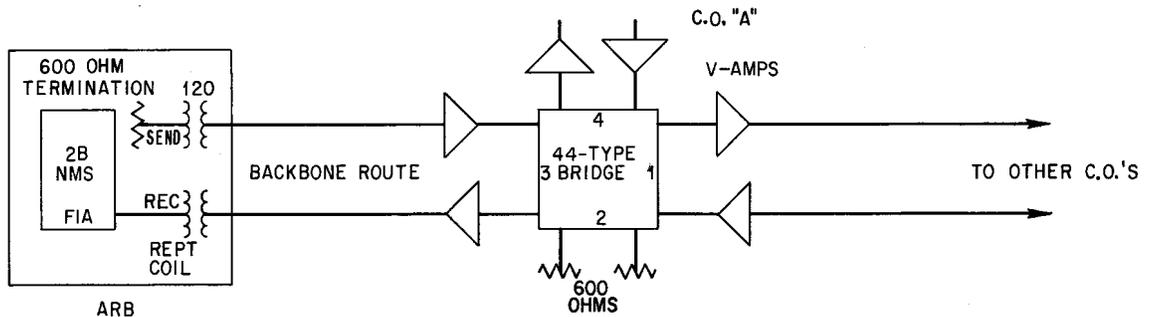

Fig. 4 — Test Set Up for Measuring Noise
**6.01** Measurements of the over-all steady noise should be made at ARB headquarters using the 2B Noise Measuring Set in accordance with practices covering the use of the set. The over-all circuit should be in the normal operating condition. Fig. 4 shows the test set up for a typical circuit. The drop side of the repeat coil at ARB headquarters should be connected to the LINE jacks or terminals of the 2B set with the switch on FIA weighting. The circuit should be monitored for crosstalk during the measurement. The presence of intelligible crosstalk is an indication of trouble. The steady noise measured at ARB should not exceed 35 dba, FIA weighting.